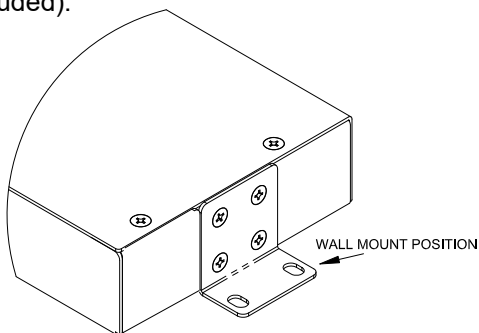

Figure 1. Mounting
**Wall:** Attach mounting brackets as shown in Figure 1, and secure to wall with proper hardware (not included).